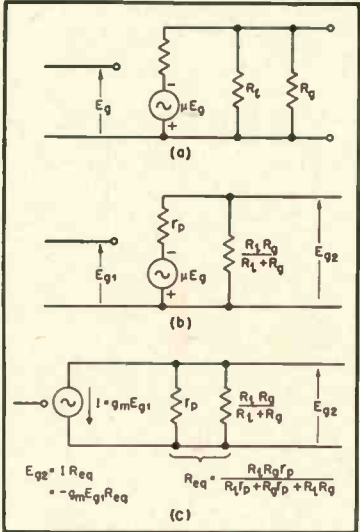

Figure 2
capacitor is chosen so that its reactance is small even at low frequencies, and that the load resistor R_L is small compared with the reactance of the capacitances in the output. Finally, the cathode bypass capacitor is selected so that its reactance will be very small at the lowest desired frequency. These original design requirements indicate possible simplifications of the circuit to enable the development of mathematical expressions for operation in the middle frequency region. This equivalent circuit for the mid-frequency band is shown in Fig. 2. The equations may be obtained by applying Kirchoff's law and Ohm's law to the loop. However, we have now reduced the circuit to the generator impedance in series with a pair of resistors in parallel. This permits an even simpler solution if we transpose the source to a current source. This is done at (C) in Fig. 2. The result is now obtained in one step.